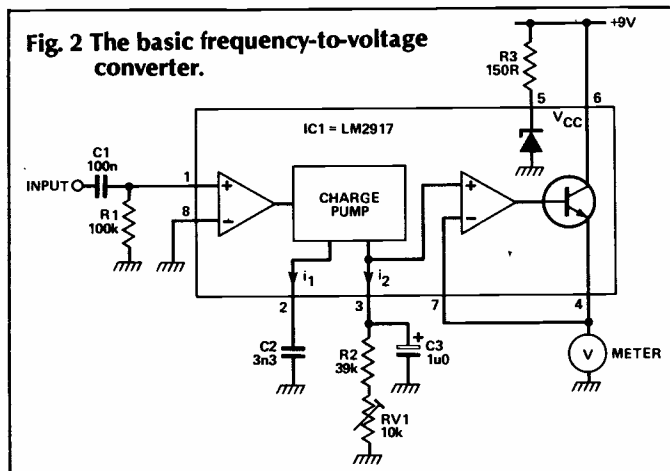
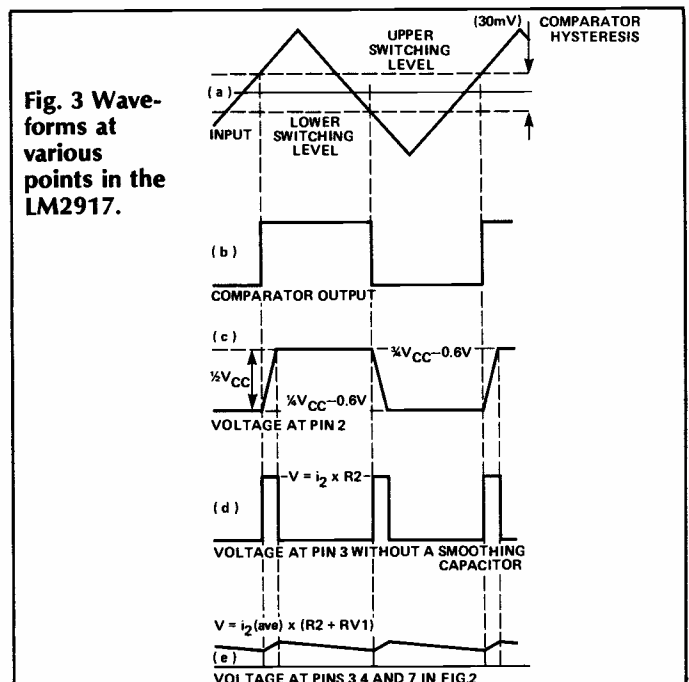

Fig. 2 The basic frequency-to-voltage converter.
Fig. 3 Waveforms at various points in the LM2917.
A simple frequency meter circuit is shown in Fig. 2. The component values shown are for an output of 1V per kHz, so that 2.7V, for instance, would represent 2.7kHz. The op-amp and transistor are connected as a voltage follower to provide a suitable output for the meter.
The heart of the LM2917 is its charge pump. Figure 3 shows the waveforms present at various points in the circuit for two different input frequencies. Each time the comparator output goes high, it turns on a current source i_1 (Fig. 2) which remains on until the voltage on C2 has increased by $\frac{1}{2}V_{CC}$. As soon as the voltage on C2 has reached its upper level, ($\frac{3}{4}V_{CC} - 0.6V$), the current source is turned off again. When the comparator output goes low, it turns on a current source, $-i_1$, which reduces the voltage on C2 by $\frac{1}{2}V_{CC}$. This gives the waveform shown in Fig. 3c.
all of the same height and width, at twice the frequency of the input waveform. Figure 3e shows the result of smoothing these pulses out with a capacitor — C2 in Fig. 2. The ripple is exaggerated in the diagram — with a large enough capacitor, it can be made as smooth as you like. The voltage level will be proportional to the pulse rate, and hence to the input frequency.
As an example, let's calculate the values for an audio frequency meter to give a full-scale reading of 2V for an input frequency of 20kHz. We'll use the same circuit as Fig. 2, but the component values will be different.
2) By leaving out the resistor instead ($R2$, $RV1$ in Fig. 2), the voltage across $C3$ will be a staircase waveform (Fig. 8). The duration of each step will be half the period of the input waveform; the rise in voltage on each step will be $\frac{1}{2}V_{CC}$ ($C2/C3$). The output of the circuit will trip after $C3/(2C2)$ complete cycles of the input, regardless of frequency.
5) So far we have been assuming that $C3$ and $R3$ are fixed and that the input frequency varies. If the input frequency is kept constant, output voltage will be proportional to $C2$ and $(R2+RV1)$ (Fig. 2). This provides the basis for a resistance or capacitance meter, or a circuit to